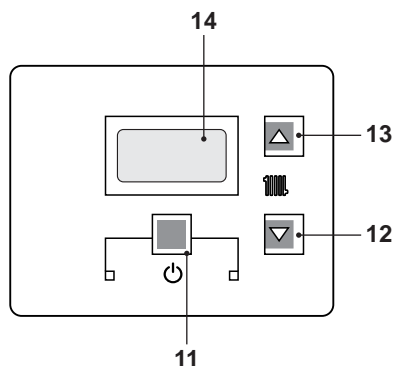

Fig. 2.5
- Press the key 11 for 2 seconds until  symbol appears on the display Fig. 2.5.
The output temperature of c.h. water can be adjusted by acting on keys 12 (reduce) and 13 (increase) (Fig. 2.5) from a minimum of
However, if the ambient temperature is not comfortable, the flow temperature of the heating plant can be increased or reduced by $\pm 15^\circ\text{C}$ by acting on keys 12 (reduce) and 13 (increase) (Fig. 2.5).